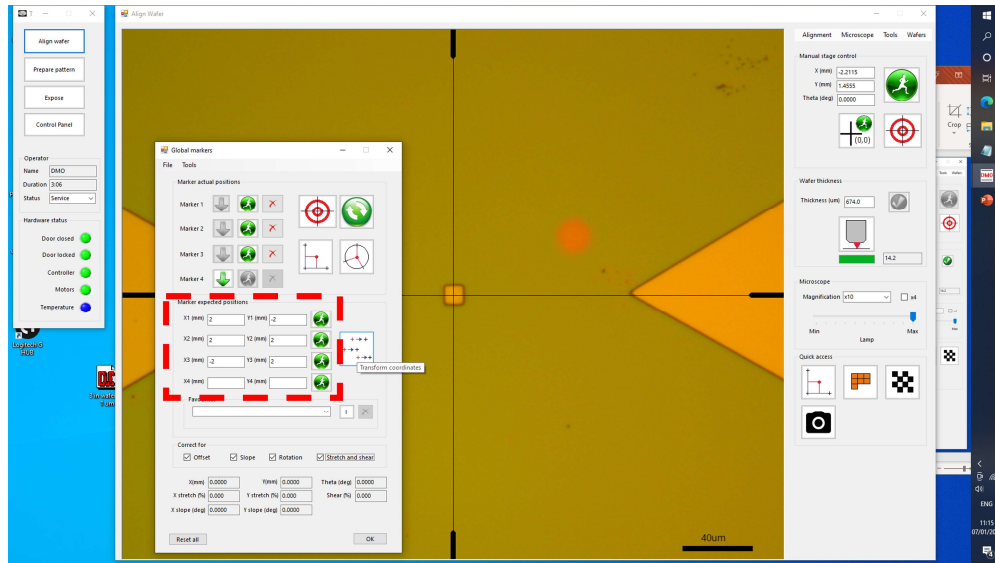

Figure 8 Enter expected positions for Marker 1, Marker 2, and Marker 3.
- m. Input the marker expected positions: Enter the expected positions of the three markers into the designed boxes in the “Marker expected positions” section (Figure 8). Here X1 (mm) and Y1 (mm) are for the Marker 1 position, and X2 (mm) and Y2 (mm) are for the Marker 2 position etc.